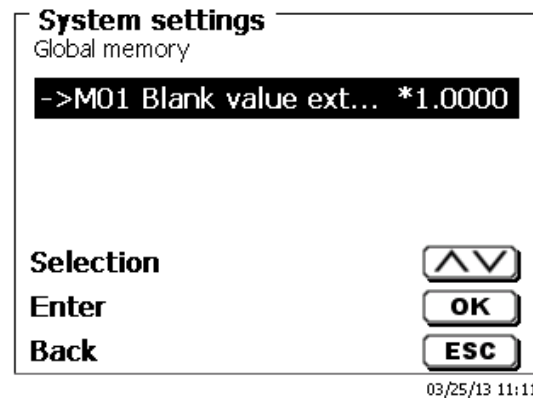

Fig. 57
**Example:** The blank value of a chloride titration is defined with the support of an extra method. The result in ml is thereby automatically written into global memory M01 by using the name "Blanc value" (Fig. 57). The blank value is then automatically deducted from the titrant consumption within the chloride method.